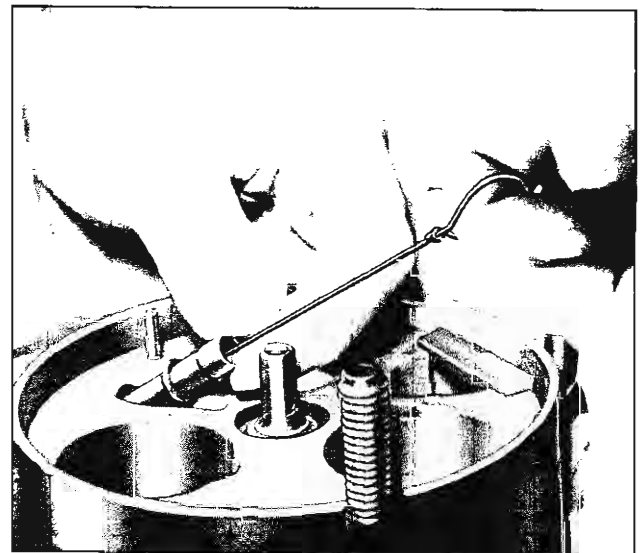

Fig. 38—Removing Oil Inlet Tube and "O" Ring
2. Remove the oil inlet tube and "O" ring with J-5139 as shown in Figure 38.